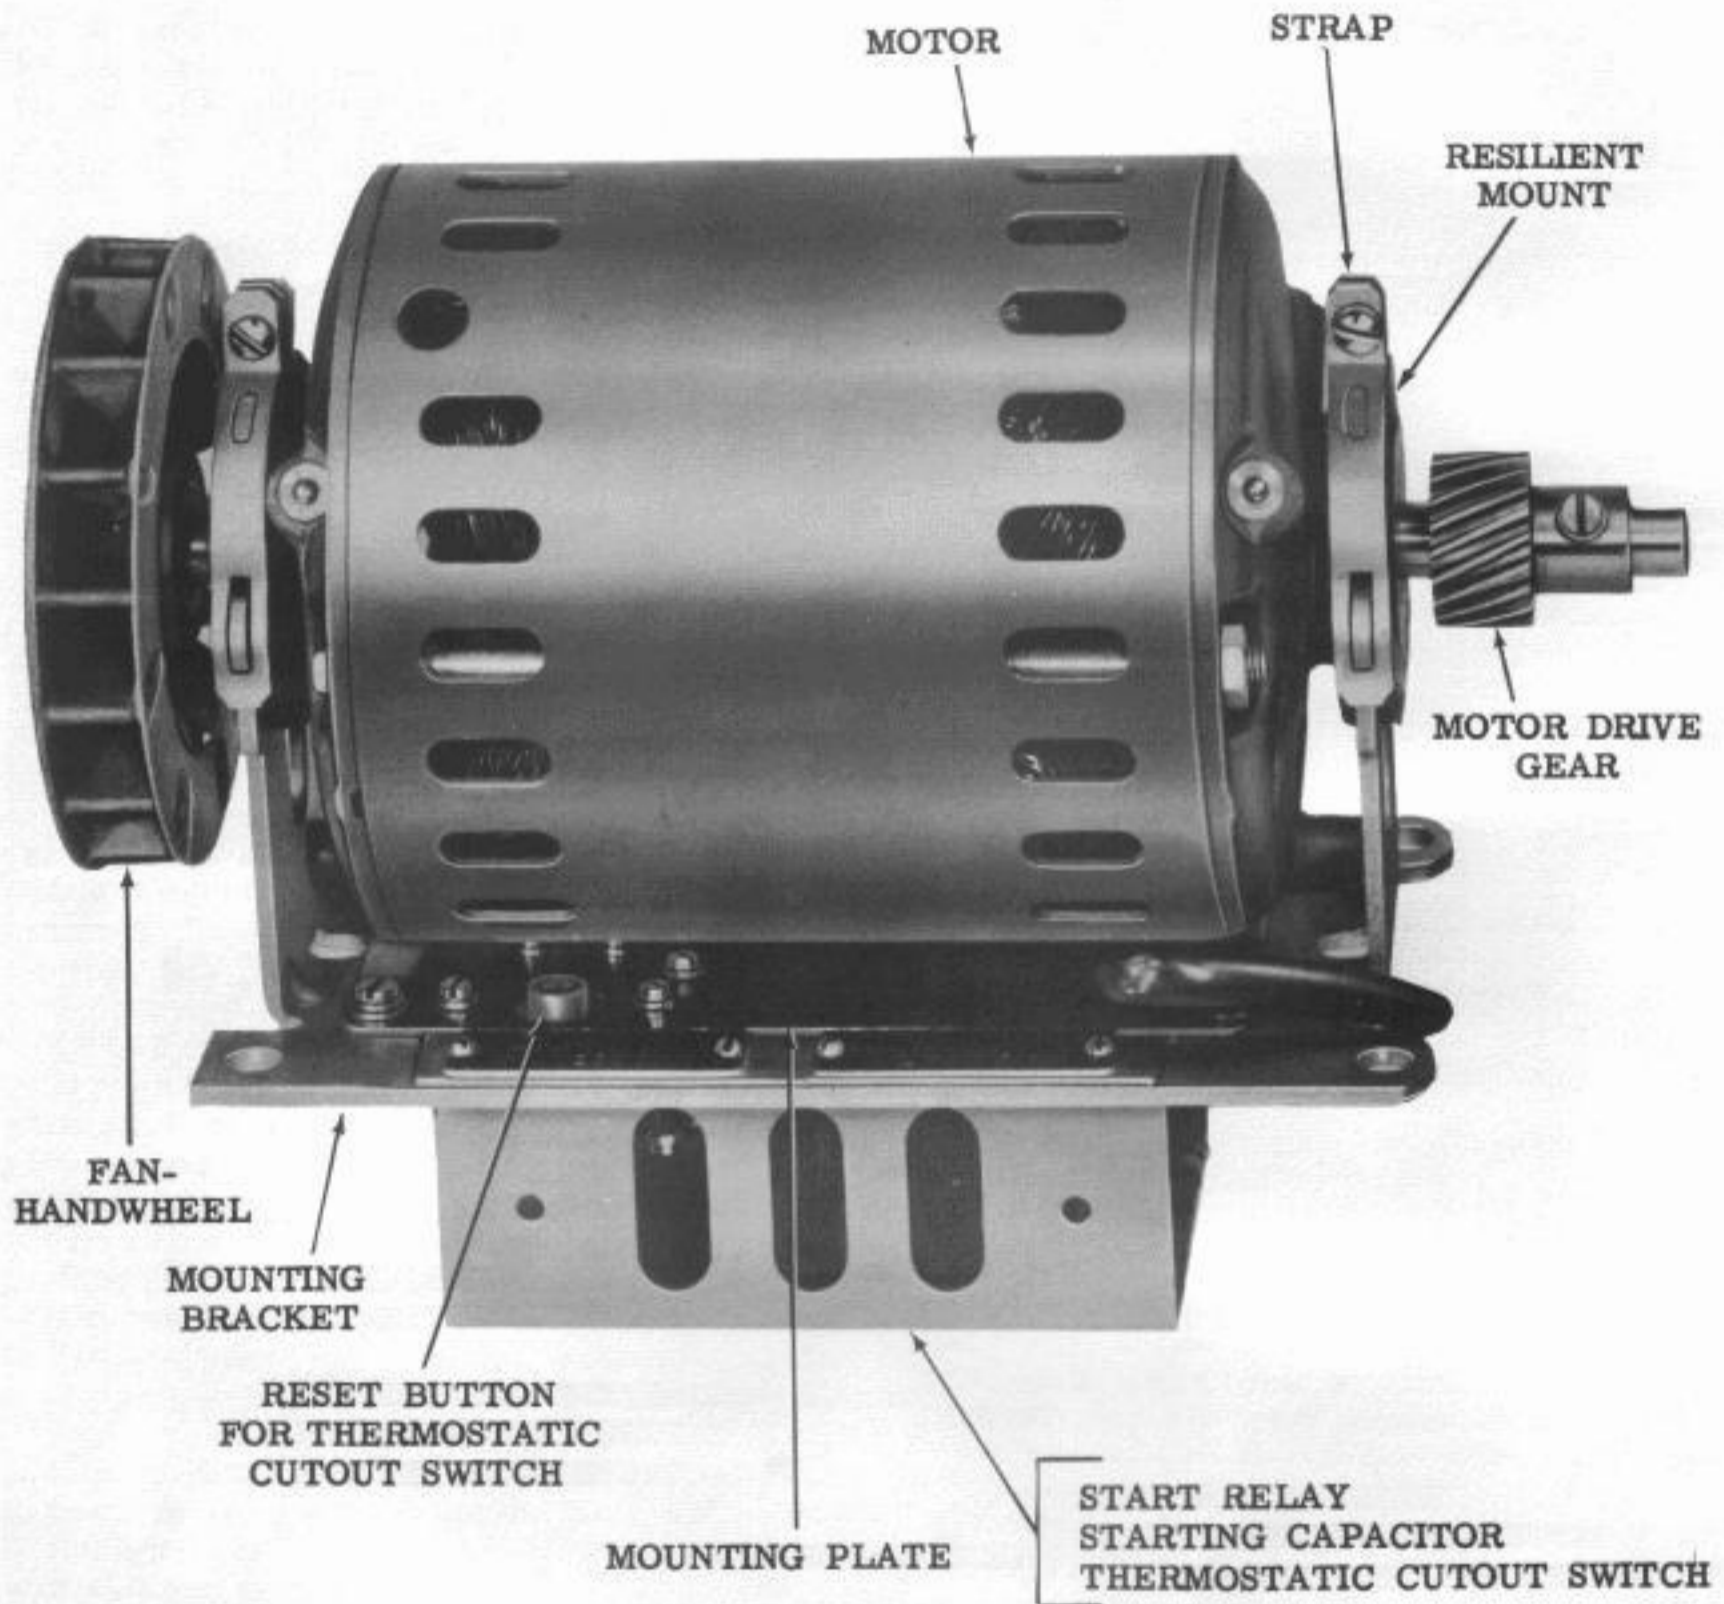

Figure 1 - 28 Synchronous Motor Unit
1.02 The synchronous type motor units (Fig. 1) are available in 1/20 and 1/12 horsepower ratings. These motor units must be operated from a standard, single-phase, regulated power source with specifications as listed in Table 1.
SYNCHRONOUS MOTOR UNITS (Fig. 1)
### SYNCHRONOUS MOTOR UNITS (Figs. 1 and 3)